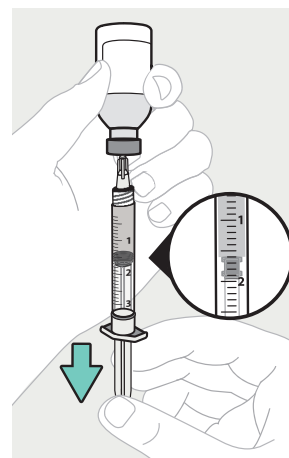

Figure 50
- a. Carefully and slowly pull back the syringe plunger rod to fill the syringe with about 1.8 mL of insulin (about halfway between the 1.5 mL and 2 mL marks) (see Figure 50).